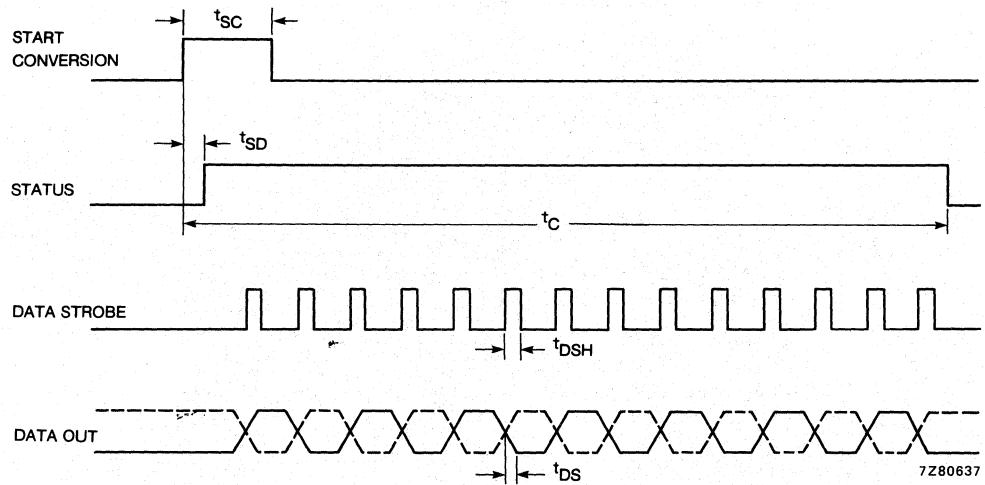

Fig. 3 Switching times waveforms.
For the timing of the output signals see Fig. 3. At the leading edge of the start conversion (SC) pulse the ADC starts converting the input voltage. During the conversion cycle the following signals appear at the output pins: